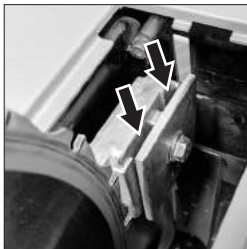

Fig. 19
- Slide the Riving Knife between the fixing plate and mounting block (Fig. 19). Ensure that the mounting blocks projecting lugs engage with the slot in the Riving Knife.